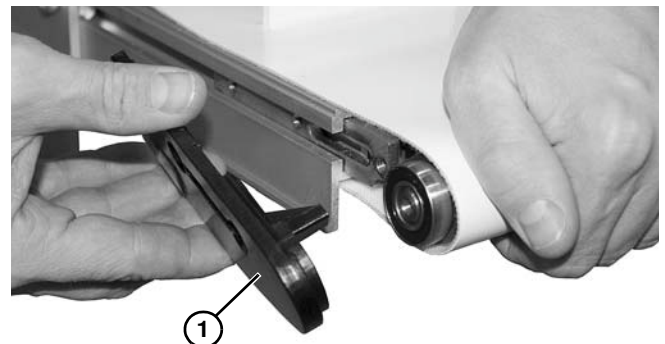

Figure 57
4. Remove the head plate (**Figure 57, item 1**) from the conveyor frame, holding spindle in place.